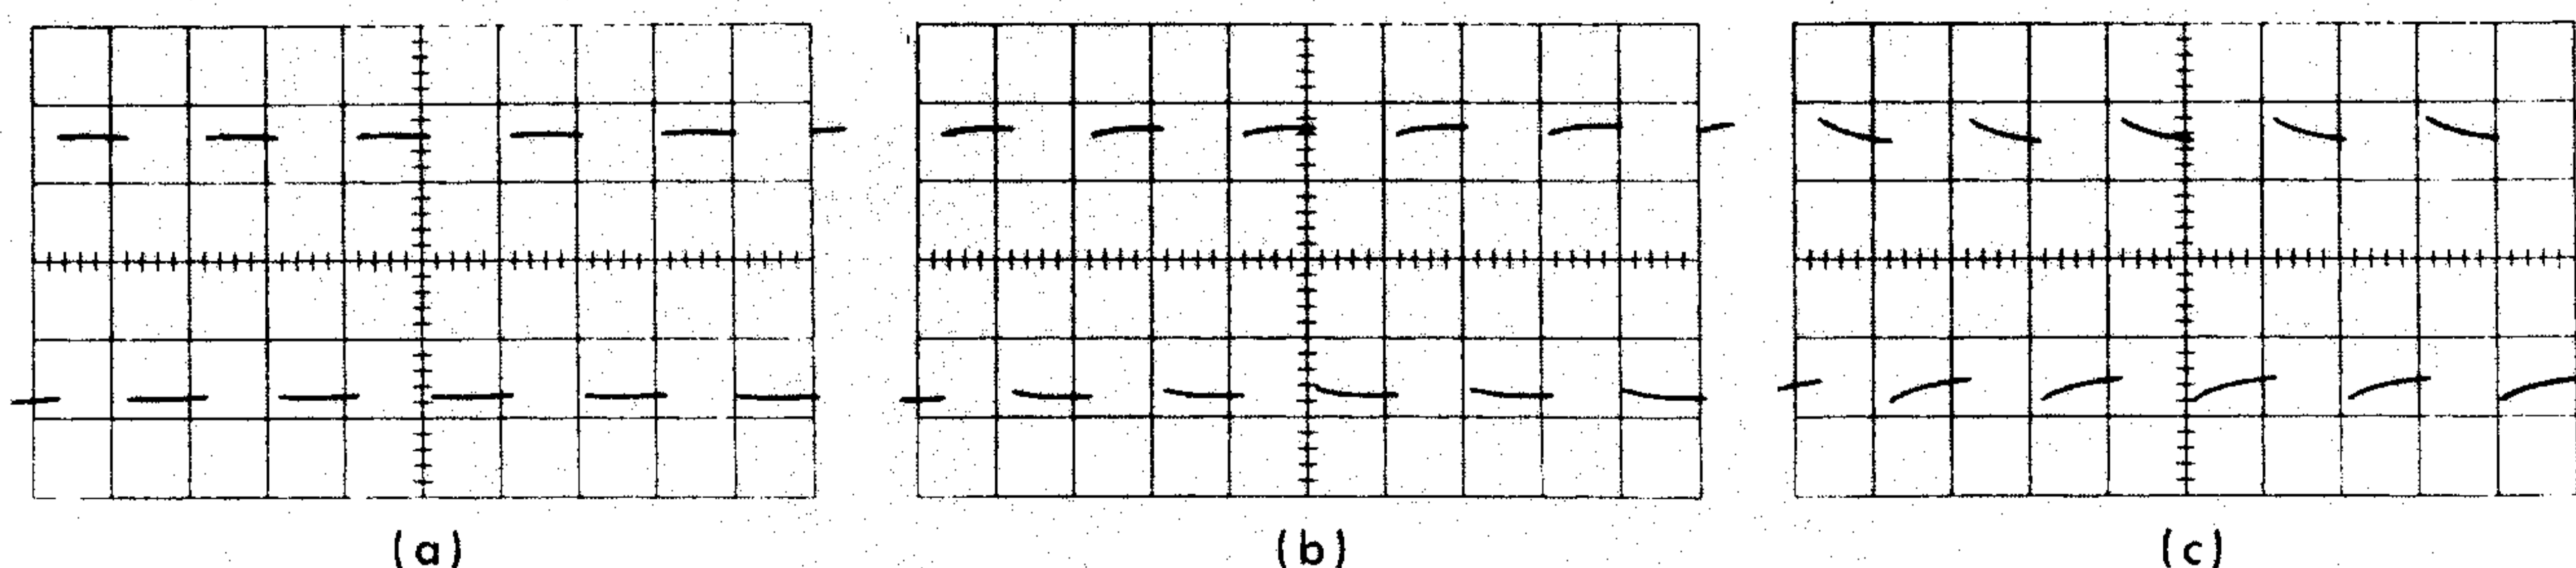

Fig. 3-4. Waveforms showing effect of LF COMP. adjustment. (a) Display with LF COMP. properly adjusted; (b) and (c) LF COMP. improperly adjusted.
9. Adjust the LF COMP. for the best level-topped square-wave appearance as displayed on the test oscilloscope (see Fig. 3-4).